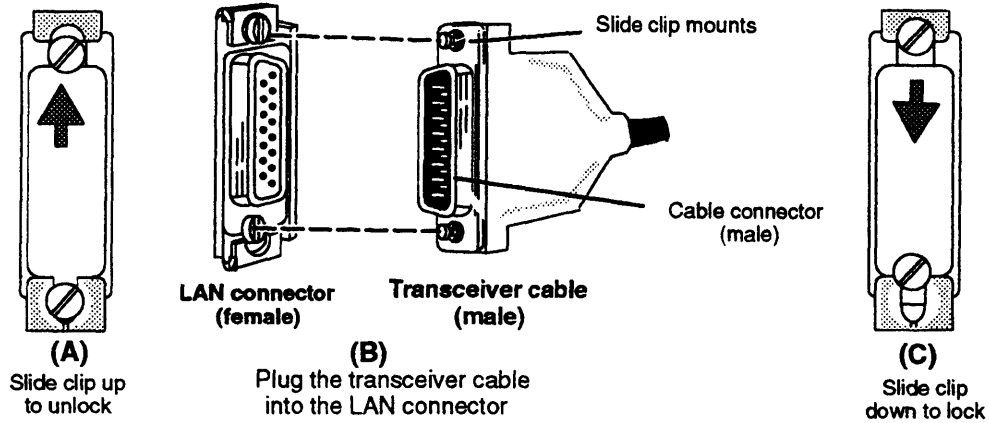

Figure 2-11 Attaching and Securing the LAN Transceiver Cable
4. As shown in Figure 2-11(a) and 2-11(b), line up the slide clip on the computer unit connector so that the slide clip mounts on the cable can pass through; then push the cable firmly into the connector.
5. Once the cable and clip mounts are secured to the connector, slide the clip using your screwdriver or a comparable tool to lock the cable in place, as shown in Figure 2-11(c).